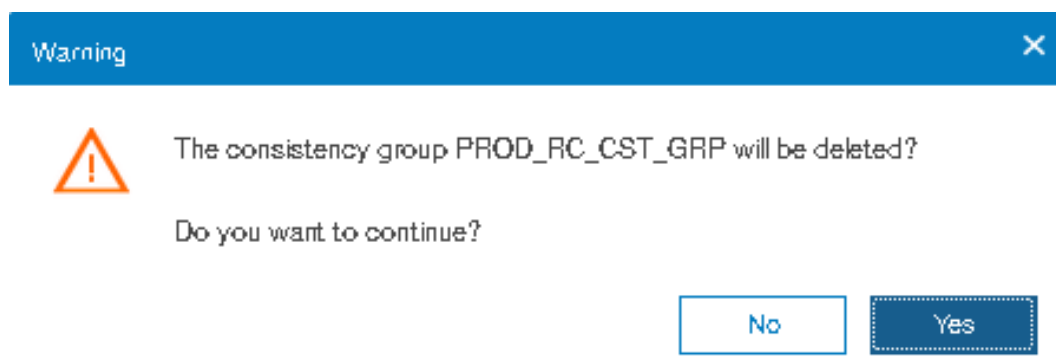

Figure 10-154 Confirmation message
4. The warning window that is shown in Figure 10-154 opens. Click **Yes**.